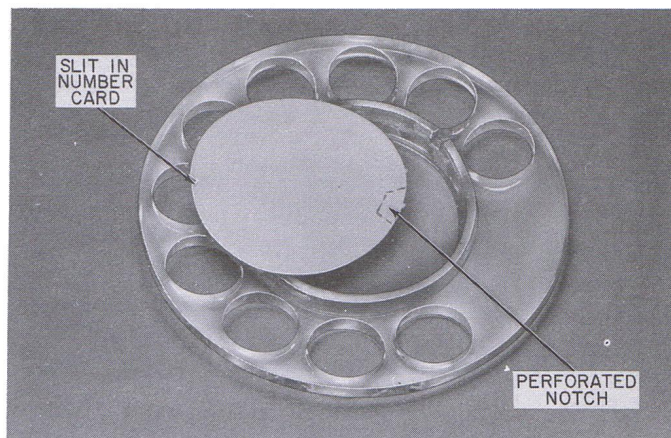
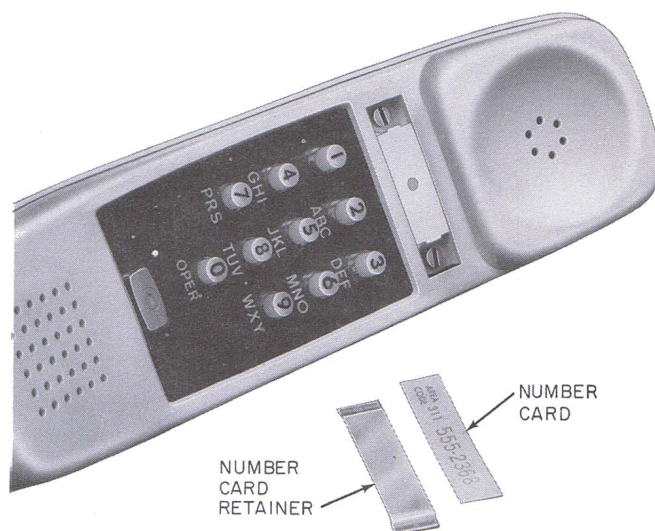

Fig. 10—Method of Placing Number Card in Current Plastic Fingerwheel
Fig. 11—Method of Placing Number Card in TRIMLINE Telephone Set
- (1) Line up slit in number card with the “V” guide on the fingerwheel (Fig. 10). Do not remove perforated notch on number card.
- (2) Push number card into place. This will force slit on card over the guide holding the number card in place.
4.05 To install number card in TOUCH-TONE telephone sets or TRIMLINE telephone sets (Fig. 11).